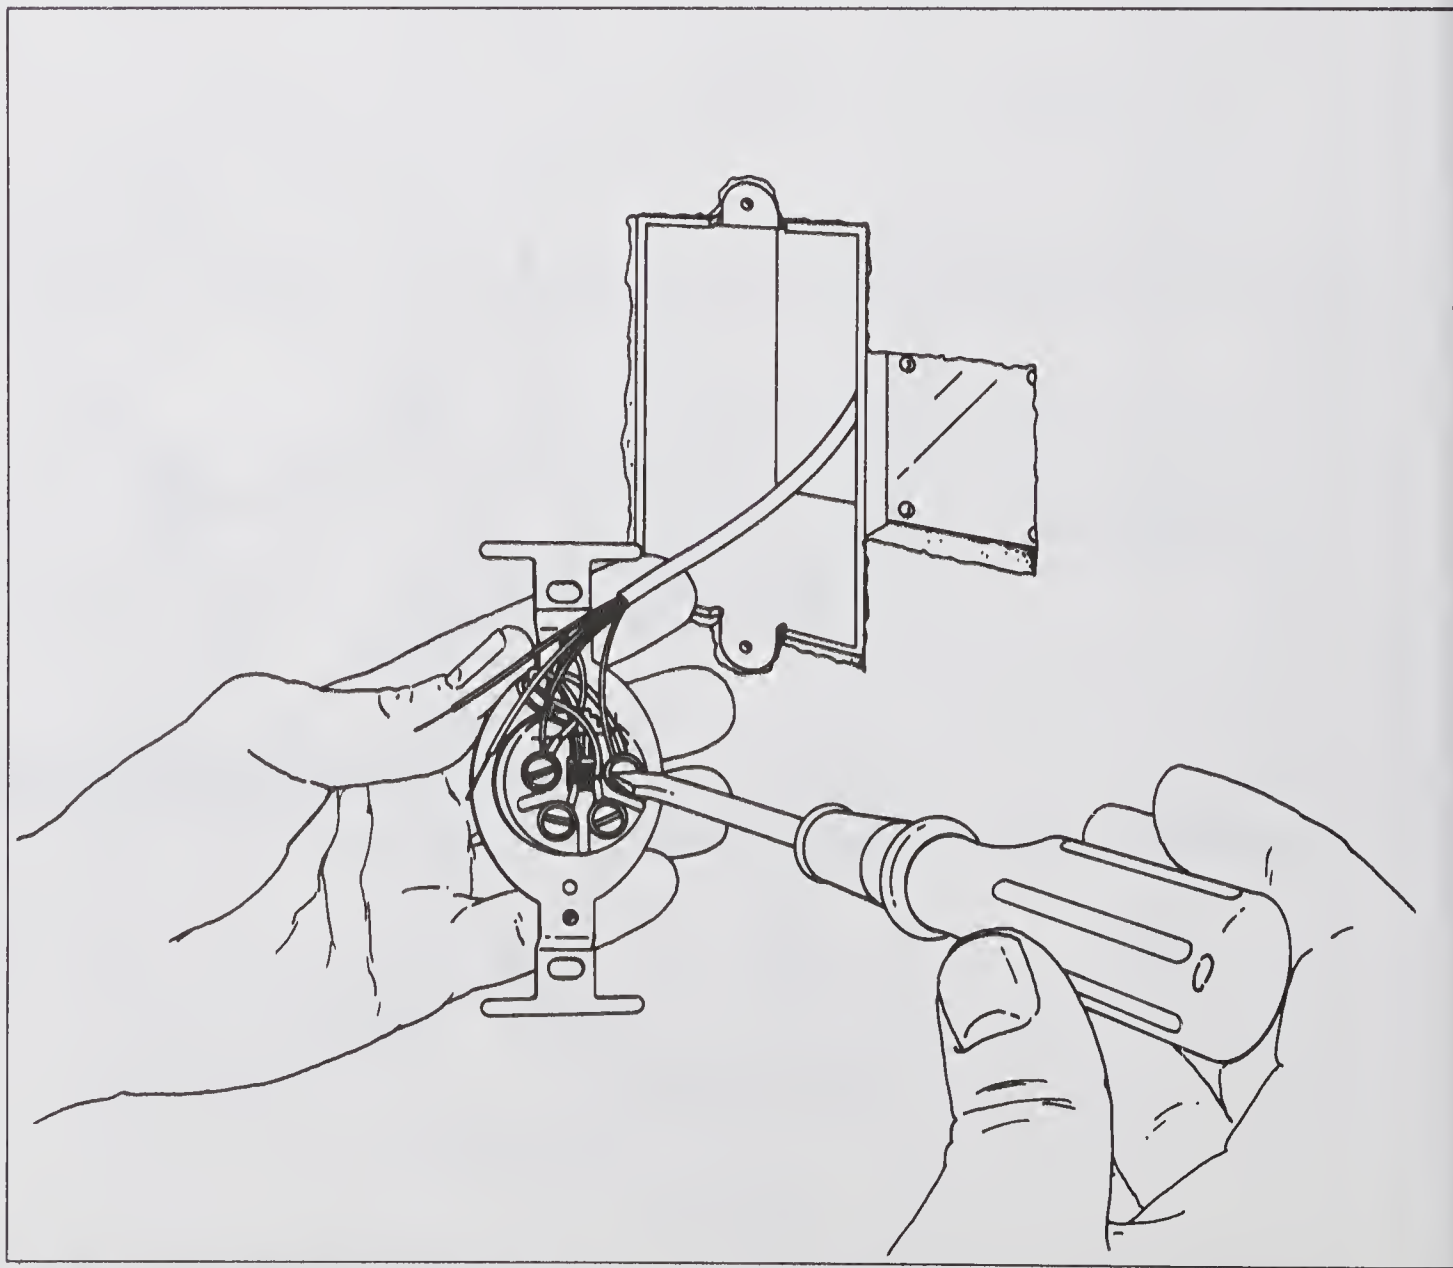

Figure 6-8.
16. Connect each cable to the modular jack terminals as shown in *Figure 6-8* by stripping back the cable sheath insulation 3" to expose the conductors and stripping the conductor insulation $\frac{1}{2}$ " to expose the bare wires. Then wrap the bare wires around the screw terminals and turn the screws tight. Do outlet D (cable Y) first, then C (cable Z), then B (cable X). B has two cables (X,Z) connecting to each terminal. In all cases keep the colors corresponding—red to red, green to green, yellow to yellow and black to black.